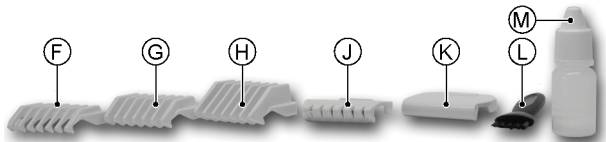

Figure 1: Clipper parts and accessories.
1. Switch the clippers off by pushing the *On/Off* switch (Figure 1, B) downwards.
3. Insert the power pack (Figure 1, E) in the mains power socket. The charge indicator light (Figure 1, C) comes on.
Remove the cutter cover (Figure 1, K) and switch the clippers on by pushing the *On/Off* switch (Figure 1, B) upwards.
- After 30 minutes of use, switch the clippers off by pushing the On/Off switch (Figure 1, B) downwards.
- Switch the clippers off by pushing the *On/Off* switch (Figure 1, B) downwards.